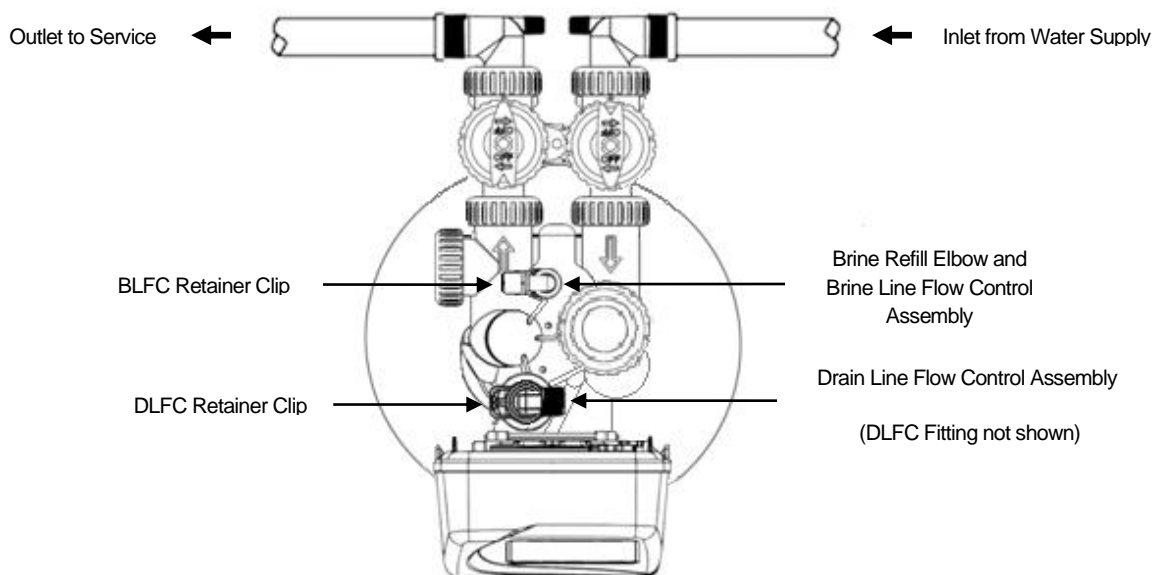
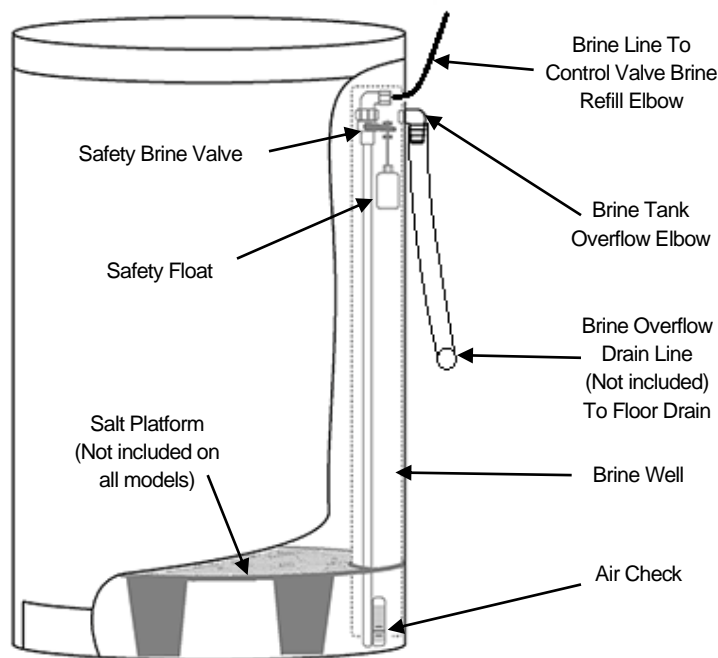

FIGURE 6: Top View of Control Valve with Bypass Installed
FIGURE 7: Brine Tank
- STEP 7:** **Apply thread tape to DLFC Assembly.** Remove drain line flow control (DLFC) retainer clip (Figure 6, Page 5) and remove the DLFC assembly from the valve body, (Figure 6, Page 5). Apply thread tape to threads. Slide drain fitting compression nut onto provided drain tubing and place the tube insert inside the end of the tubing. Insert tubing end with insert into drain elbow and tighten the compression nut onto the thread taped elbow. Reinsert DLFC assembly into the valve body, making certain it is FULLY inserted before replacing the retaining clip.
- STEP 8:** **Install softener drain line.** Use ½" I.D. polyethylene tubing (**DO NOT USE FLEXIBLE VINYL TUBING!**) to run drain line from control valve DLFC fitting (Figure 6, Page 5, not shown) to floor drain or sump pit capable of handling the backwash rate of the filter (refer to specifications and flow rate on pages 15-16) or discard the compression fitting and use ¾" NPT fitting to connect a rigid pipe drain line (recommended). If backwash flow rate is greater than 7 gpm, use ¾" (1" for EMX210A) NPT connector with rigid drain line. There must be an air gap at the end of the drain line to prevent siphoning of waste water. Length of drain line should be 15' or less. AVOID OVERHEAD DRAINS.
- STEP 9:** **Connect brine line between the softener and safety brine valve.** Install the 3/8" O.D. polyethylene tube from the brine refill elbow (Figure 6, Page 5) to the safety brine valve (Figure 7) inside the brine tank. **DO NOT INSERT THE BRINE REFILL LINE INTO THE BRINE TANK OVERFLOW ELBOW FITTING. Do not put salt in the tank until STEP 25.**
- STEP 10:** **Install brine tank overflow drain line (not included).** An overflow drain line is recommended. The softener includes a safety brine valve (Figure 7) which reduces the chance of a brine overflow. In the event of a malfunction, an overflow drain line will direct the "overflow" to the drain instead of onto the floor where it could cause considerable damage. This fitting is an elbow on the side of the brine tank (Figure 7). Attach a length of 1/2" I.D. tubing to fitting and run to a drain. Do not elevate overflow line higher than 3" below bottom of overflow fitting. **DO NOT "TIE" THIS TUBE INTO THE DRAIN LINE OF THE CONTROL VALVE AS IT WILL RESULT IN OVERFILLING THE BRINE TANK AND FLOODING.** The overflow line must be a direct, separate line from the brine tank overflow elbow to a floor drain or sump pit.